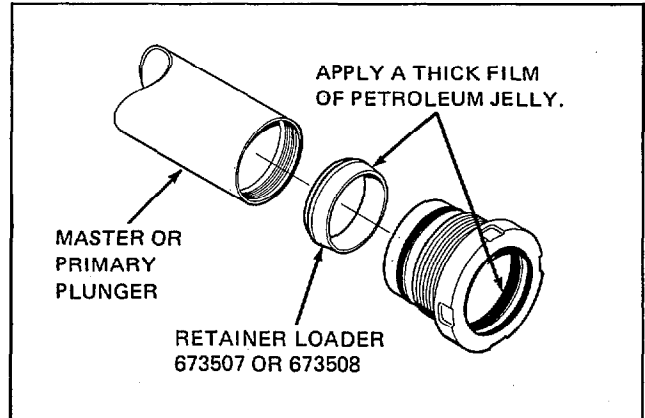

Figure 15. Retainer Loader
18. Place the 3.25" O.D. retainer loader over the end of the primary plunger. Apply a thick film of petroleum jelly to the loader and inner surface of the master plunger retainer. Load the retainer onto the primary plunger. See Figure 15.